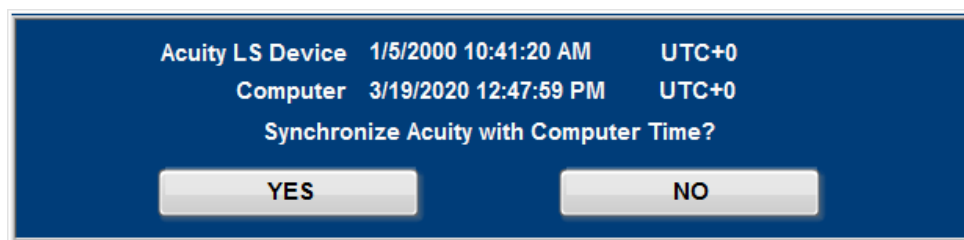

Figure 9. Acuity LS device and computer time comparison window when starting the data logging or downloading data.
The user is prompted to synchronize the Acuity LS device time with the computer time whenever starting a data log or downloading data (Figure 9). Use the Acuity LS interface program to synchronize the Acuity LS device clock with the connected computer clock.
3. When download is complete, the UTC time synchronization window will appear (Figure 9). Refer to "Clock Synchronization" above.